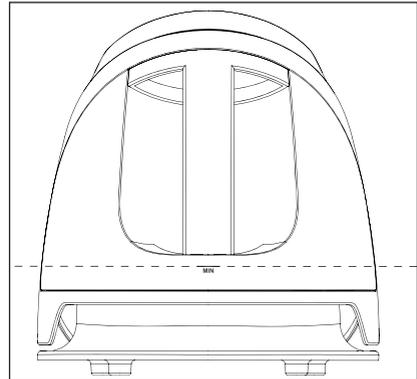

Fig. 1
- ▶ As soon as the fill level of the water tank **7** falls below the **MIN** mark (see Fig. 1), no more water is pumped into the steam chamber and the steam output stops.